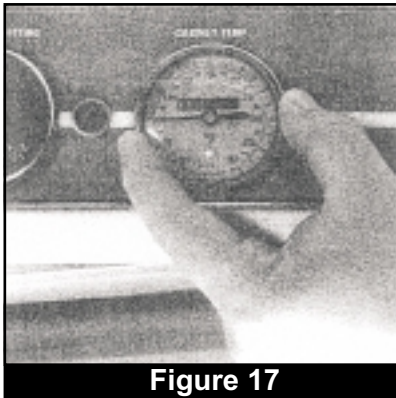

Figure 17
****NOTE:** Align thermometer so that the 150° reading will be straight up when the front panel is replaced and the heating module is flipped over. (Fig. 17)